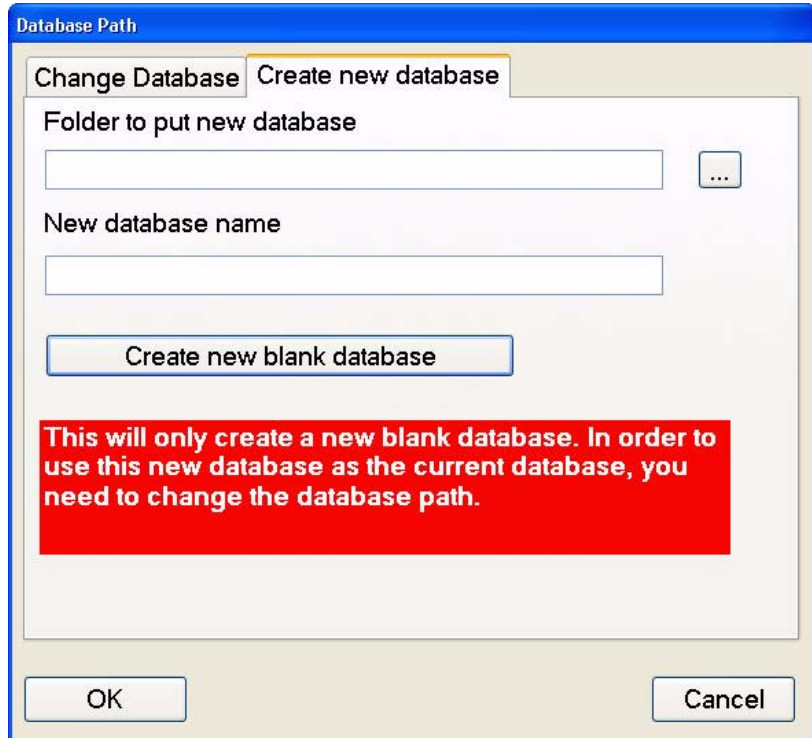

Figure 9-22 Change Database – Create New Database Tab
1. Click **Options > Change Database...** The Database Path dialog appears with the Change Database tab selected. Click the Create new database tab (Figure 9-22).